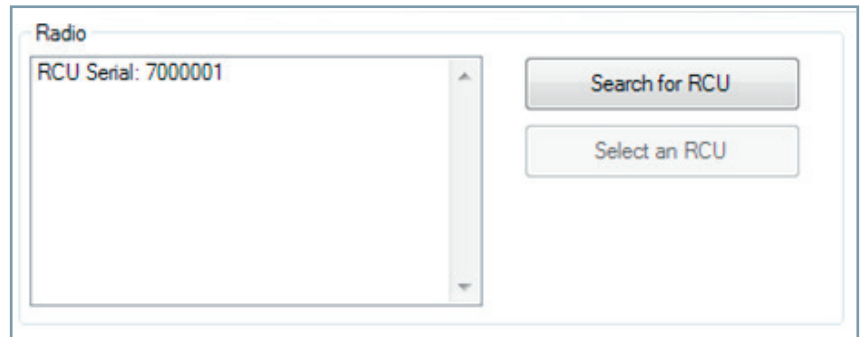

Figure 43: RCU Connect – selecting an RCU
- Click the "Search for RCU" button, RCU Connect will scan for available RCUs, and display each one in the box listed by serial number, as shown in Figure 43.
Once RCU Connect and the RCU are communicating the "Traffic" and "Live Data" indicators shown at the bottom of Figure 43 will provide a visual indication that communications is in progress.